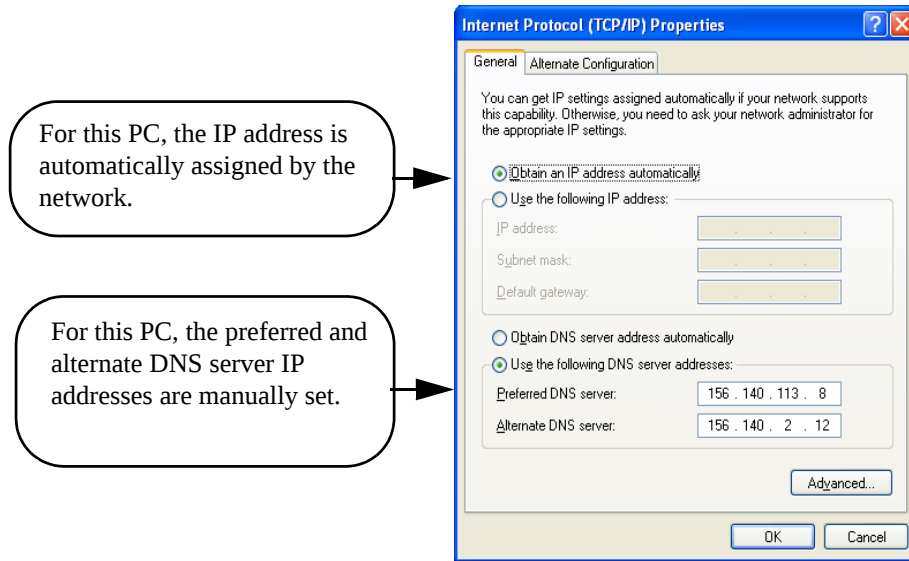

Figure 74 TCP/IP Properties Dialog Box (Windows XP)
- 6 Figure 74 shows an **Internet Protocol (TCP/IP) Properties** dialog box to automatically obtain IP addresses and to manually assign DNS Server addresses on a Windows XP PC.